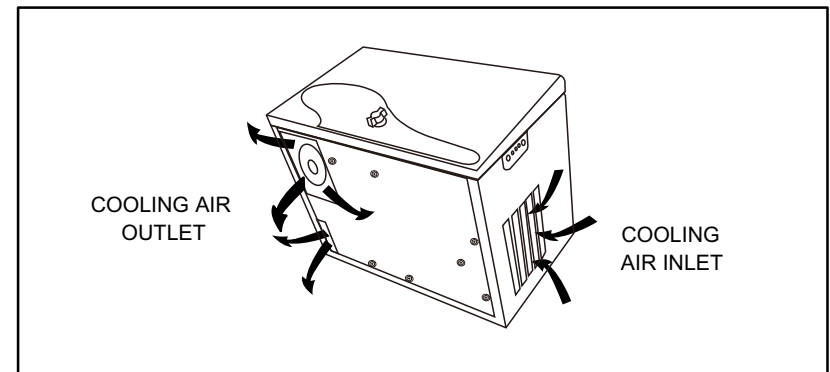

FIGURE 3. GENSET COOLING AIR INLET AND OULET OPENINGS
The outside circuit diagram can be found in fig. 3, page 9.
6. Genset cooling air (Figure 3) must not be obstructed.